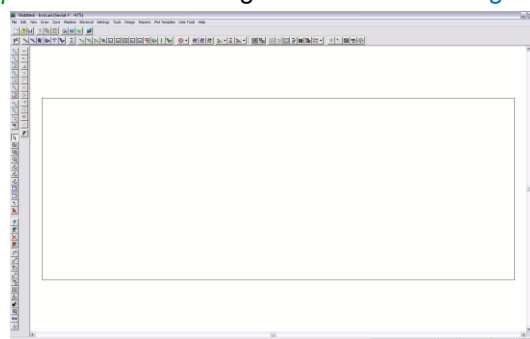

Figure 4-38
5. Select **Draw/Rectangle/2 Point** and move the cursor to the bottom left of the screen and click the left mouse button to start the rectangle. You will notice that the status bar will ask you to enter the corner point of the rectangle prior to you clicking the mouse and for you to enter the opposite corner after you have placed the first. Draw the cursor away from the first point and left-click to place the second point. Now select **Modify/Change** and click on the border of the rectangle. Edit the “**Width**” to be **390 (120)** and the “**Height**” to be **150 (45)**. Click **[OK]**. Select **View/Zoom All**. Your design should look like Figure 4-38.